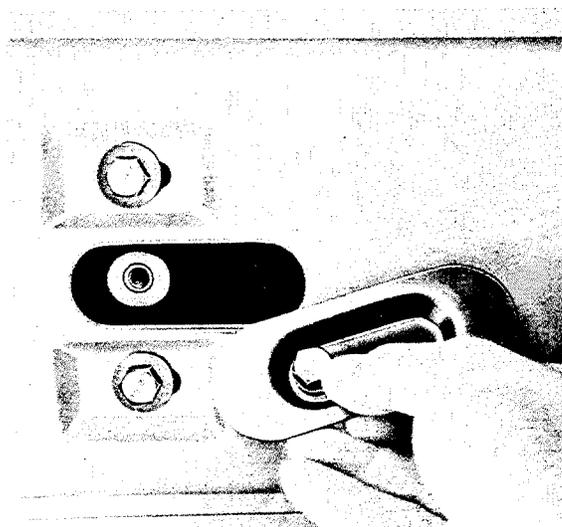

Fig. GW 1a/3
3. Unscrew cover plate and screws from propeller shaft center bearing (Fig. GW 1a/3).
Do not forget sealing ring (9) between slotted nut and centering star on transmission and rear axle (see Fig. GW 1a/01).